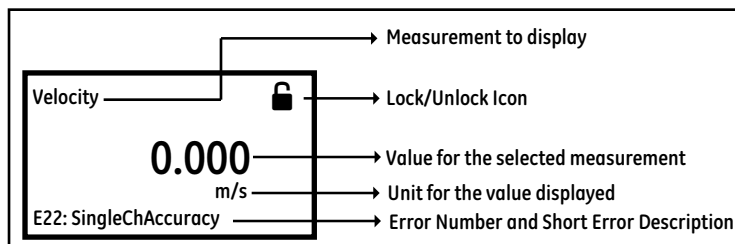

Figure 11: Measurement View
After power up, if the meter's *Measurement View* (Refer *Figure 11*) shows a lock icon on the top right of the display, use the following steps to unlock the meter from keypad lockout mode.
- Finally, the *Measurement View* (Refer *Figure 11*)
This screen (Refer *Figure 11*) will be referred to as "*Measurement View*" throughout this chapter. User can choose the measurement to be displayed in this view from a list of options. The Error indicator at the bottom left of the display will be blank if the meter has no error.